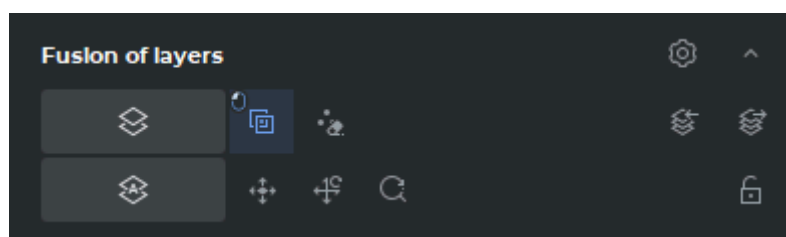

Figure 4.3: Fusion of layers panel
2. In the Multiplanar Reconstruction tab, open the segmentation panel by clicking the **Segmented structure panel**  button. There is the **Fusion of layers** panel at the bottom of the **Segmentation** panel (Fig. 4.3).
1. Click the **Merge layers automatically**  button on the **Fusion of layers** panel (Fig. 4.3). This starts the merging process, the **Optimizing correlation** dialog will open.
To export merge of series, click the **Export series registration to DICOM object**  button on the **Fusion of layers** panel (Fig. 4.3).
2. Click the **Import series registration from DICOM object**  button on the **Fusion of layers** panel (Fig. 4.3).